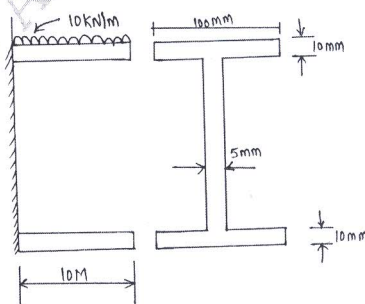

Fig.Q7(b)
b. A cast iron bracket of I-section with equal flanges is as shown in Fig.Q7(b). The beam carries an UdL of 10 kN/m on a span of 10m length. Determine the position of neutral axis, MI about the neutral axis and the maximum stress distribution.